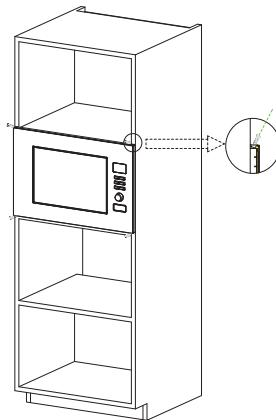

Fig. 2
- b) Use the screws of parts packing to secure the microwave oven in the cabinet. (Fig. 2)